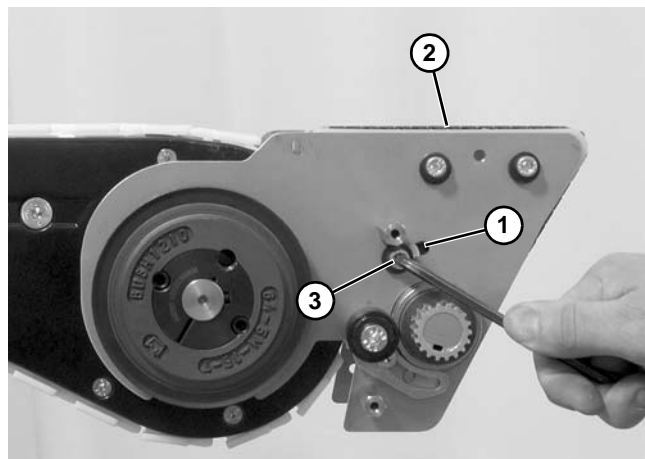

Figure 164
9. Slide idler assembly within slot (Figure 164, item 1) only enough to remove excess slack from belt (Figure 164, item 2). Tighten socket head screws (Figure 164, item 3).